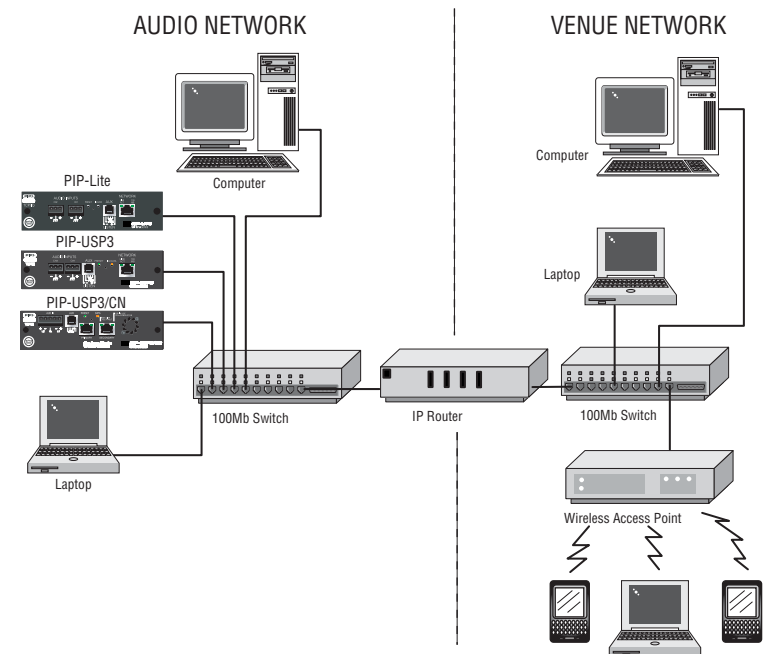

Figure 8.2 Two Networks Connected by an IP Router
- Components on different Local Area Networks (LANs) through the use of an IP router (Figure 8.2).
Communications between networks is allowed, but requires the use of a special piece of equipment called an IP Router (Figure 8.2). The router acts as a Gateway to allow this communication to exist. Any data traffic that is to go to the other network is routed through the IP Router. The CobraNet data is held behind but IP data goes through.
Internet Protocol (IP) Address: The IP address of a component is assigned during the setup of the network and identifies the IQ component to a larger audience. Because the MAC address is limited to a single physical LAN, communications between LANs is impossible solely through the use of the MAC address. The IP address allows components and controllers on other networks to communicate with each other through the use of an IP Router as shown in Figure 8.2.